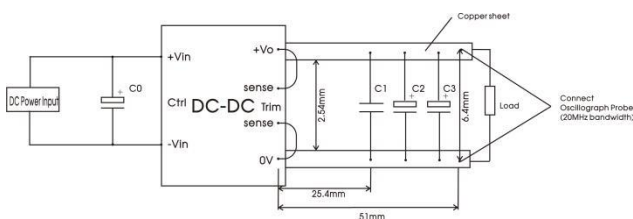

Fig.1
<p>Note:</p> <p>①The Ctrl pin voltage is referenced to input -Vin.</p> <p>②Ripple &amp; Noise for 48VDC output at 0%Io-100%Io load ≤ 400mV, others outputs at 0%Io-100%Io load ≤ 300mV, the measuring method of ripple and noise, please refer to Fig. 1 .</p>
All the DC-DC converters of this series are tested before delivery using the recommended circuit shown in Fig. 1.